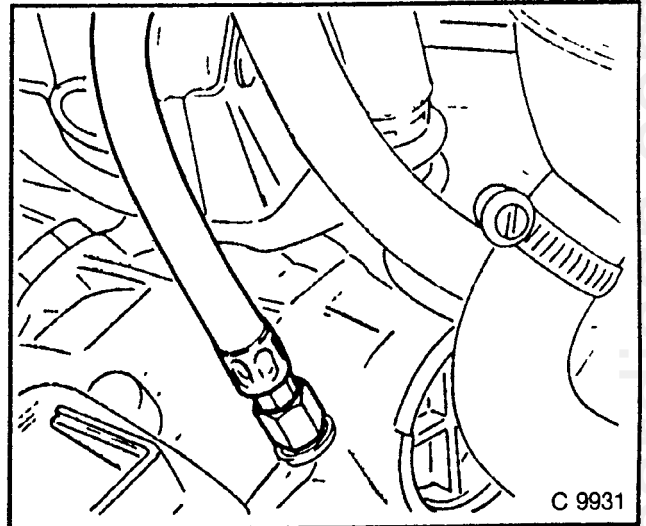

Fig 228
1. Fluid circuit B4 — connect as in Fig. 228.